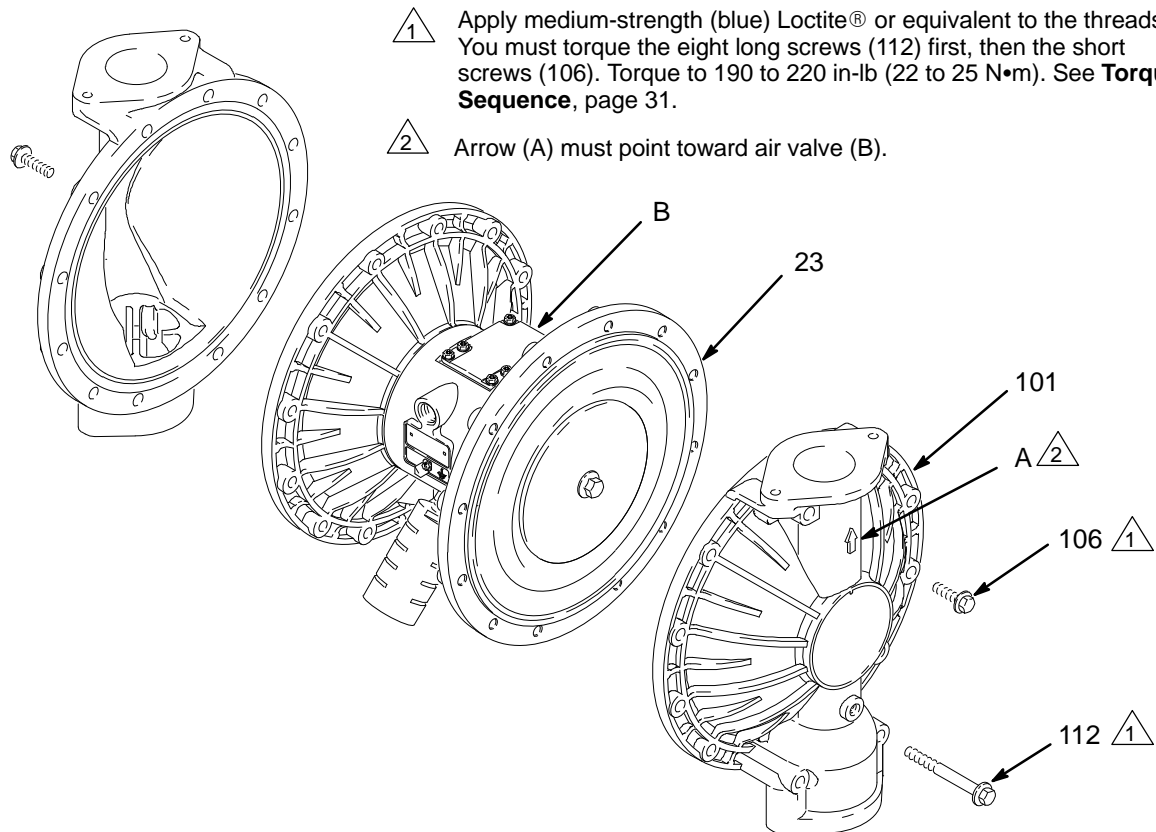

Fig. 11
3. Using 10 and 13 mm socket wrenches, remove the screws (106 and 112) holding the fluid covers (101) to the air covers (23). Pull the fluid covers (101) off the pump. See Fig. 11.
- a. Install the o-ring (108*) on the shaft bolt (107).
- b. Install the fluid side diaphragm plate (105) on the bolt so the rounded side faces in, toward the diaphragm (401).
- c. *On PTFE Models only*, install the PTFE diaphragm (403*). Make certain the side marked AIR SIDE faces the center housing (1).
- d. Install the diaphragm (401*) on the bolt. Make certain the side marked AIR SIDE faces the center housing (1).
- e. Install the air side diaphragm plate (104) so the recessed side faces the diaphragm (401).
- f. Apply medium-strength (blue) Loctite® or equivalent to the bolt (107) threads. Screw the bolt into the shaft (24) hand tight.
- g. *For overmolded diaphragms:* Assemble the air side plate (104) onto the diaphragm (403). The wide, radiused side of the plate must face the diaphragm. Apply medium-strength (blue) Loctite or equivalent to the threads of the diaphragm assembly. Screw the assembly into the shaft (24) hand tight.
3. Grease the length and ends of the diaphragm shaft (24), and slide it through the housing (1).
5. Hold one shaft bolt (107) with a wrench and torque the other bolt to 20 to 25 ft-lb (27 to 34 N•m) at 100 rpm maximum. *NOTE: This step does not apply to pumps with overmolded diaphragms.*
6. Align the fluid covers (101) and the center housing (1) so the arrows (A) on the covers face the same direction as the air valve (B). Secure the covers with the screws (106 and 112), handtight. Install the longer screws (112) in the top and bottom holes of the covers. See Fig. 11.
7. First, torque the longer screws (112) oppositely and evenly to 190 to 220 in-lb (22 to 25 N•m), using a 13 mm socket wrench. Then torque the shorter screws (106), using a 10 mm socket wrench. See **Torque Sequence**, page 31.